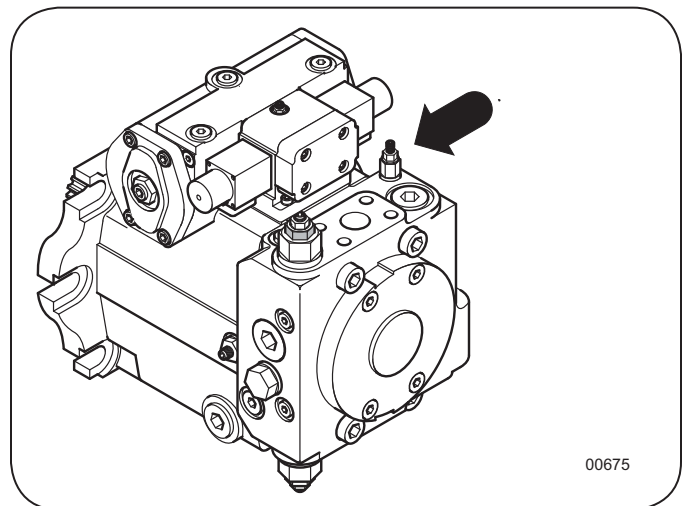

Figure 5: Drive PRO Relief
5. Before the directional reliefs can be set the track drive POR relief must be cancelled. Locate the POR relief on the track drive pump. See Figure 5.